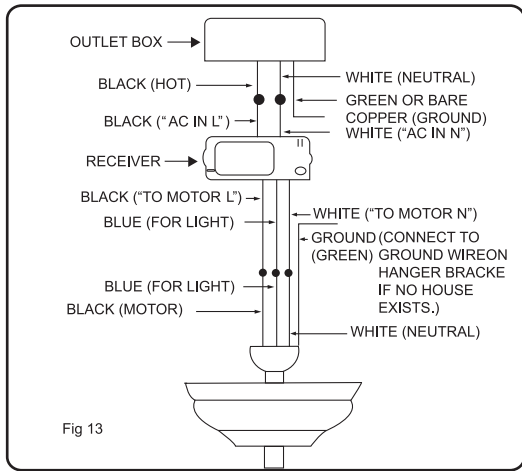

Fig 13
**NOTE:** If your ceiling fan features an UP Light: Connect the **ORANGE** wire from the fan to the **ORANGE** wire marked "For UP Light" from the receiver. Otherwise disregard this step and proceed to secure all wire connections with the plastic wire nuts provided. ( Fig. 13 & 14 )
Connect the **WHITE** wire (Neutral) from the outlet box to the **WHITE** wire marked "AC in N" from the receiver. Connect the **BLACK** wire (Hot) From the outlet box to the **BLACK** wire marked "AC in L" from the receiver. Secure all wire connections with the plastic wire nuts provided. ( Fig. 13 & 14 )
**Step 4.** If your outlet box has a **GROUND** wire (Green or Bare opper) connect this wire to the Hanger Ball and Hanger Bracket Ground wires. If your outlet box does not have a Ground Wire, then connect the Hanger Ball and Hanger Bracket Ground Wires together. Secure wire connection with the plastic wire nut provided. ( Fig. 13 & 14 )